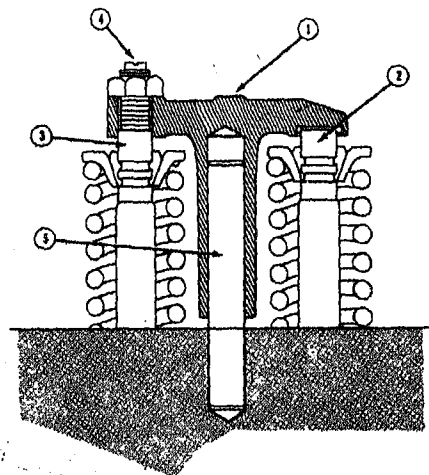

Fig. 5-20. Valve crosshead cross section.
- Loosen valve crosshead adjusting screw locknut and back off screw (4, Fig. 5-20) one turn.
- Use light finger pressure at rocker lever contact surface (1) to hold crosshead in contact with valve stem (2) (with out adjusting screw).
- Turn down crosshead adjusting screw until it touches valve stem (3).
- With new crossheads and guides, advance setscrew an additional one-third of one hex (20°) to straighten stem on its guide (5) and compensate for slack in threads. With worn crossheads and guides, it may be necessary to advance setscrew as much as 30° to straighten stem on its guide.